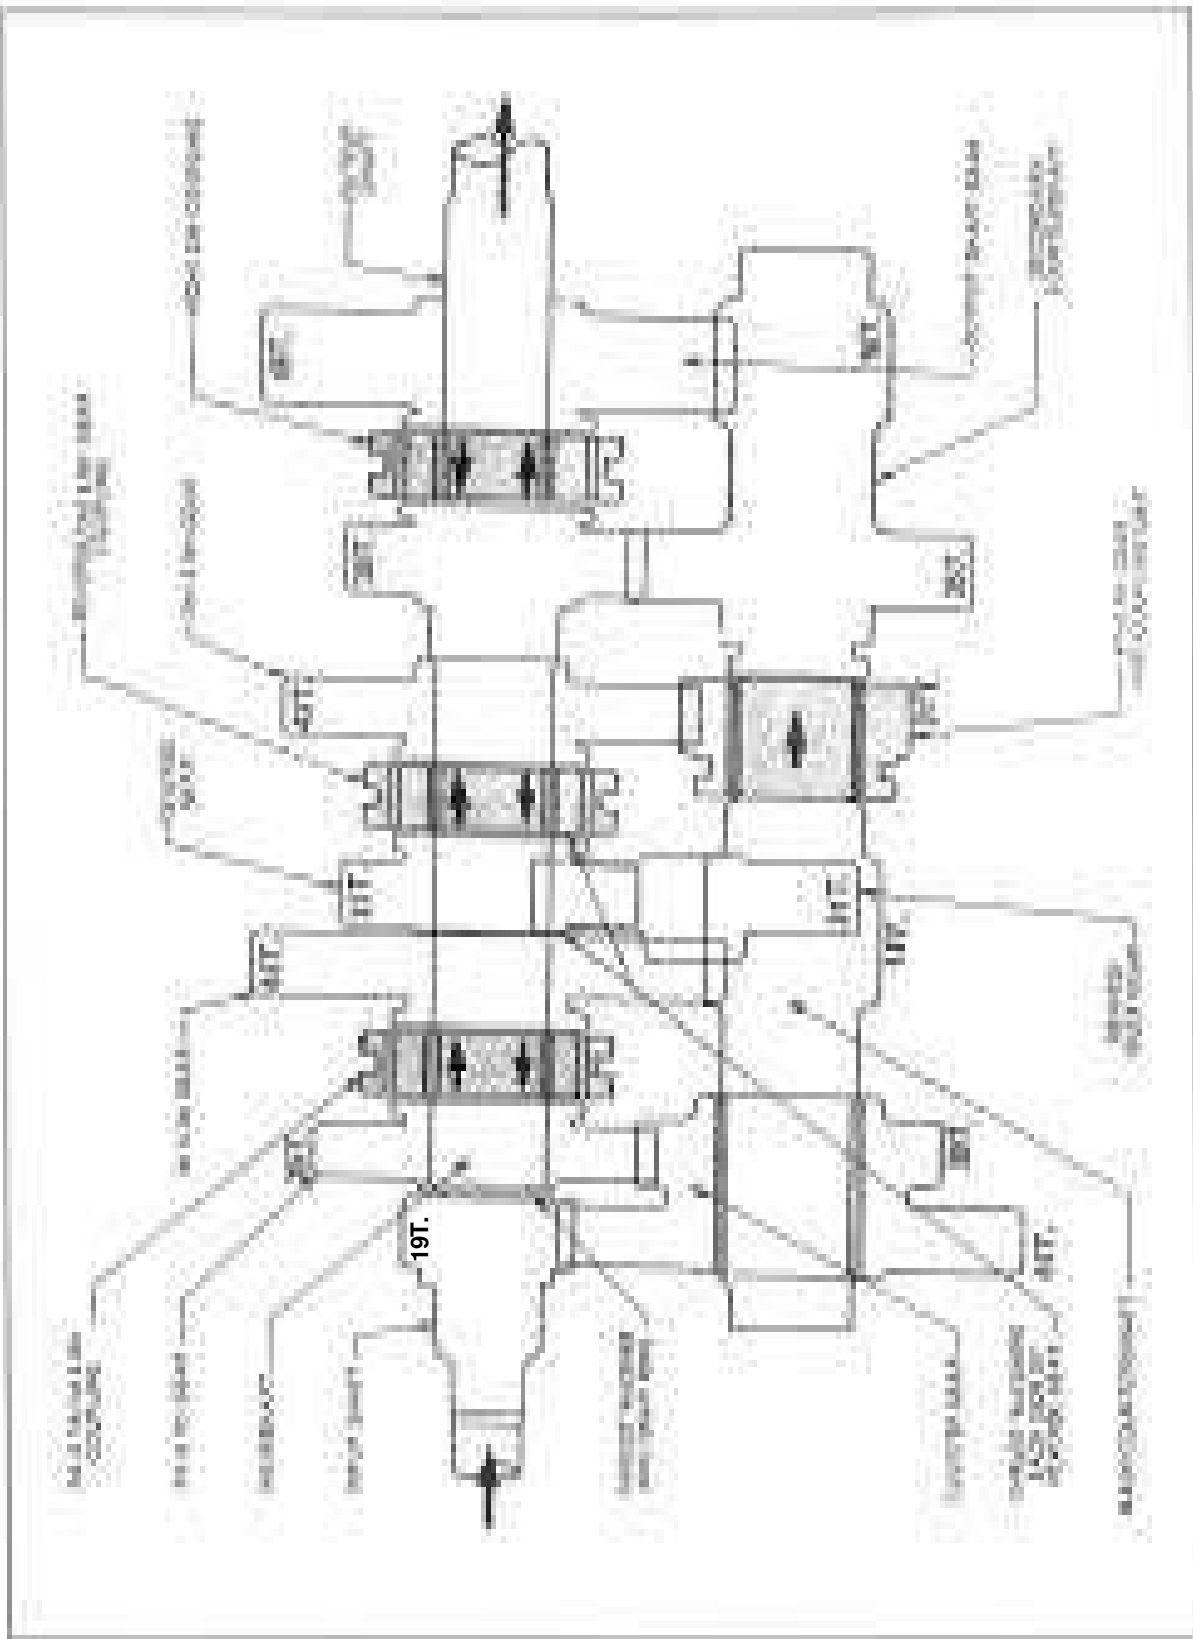

Figure 43
1. Pass the mainshaft complete with rear bearing through the rear compartment. Assemble the gears to the shaft in the following sequence Figure 43.